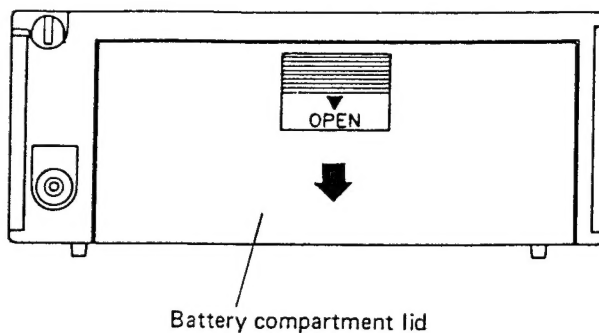

Figure 2
3. Open the battery compartment lid of the rear of the TV set by sliding it in the direction as indicated in Figure 2.